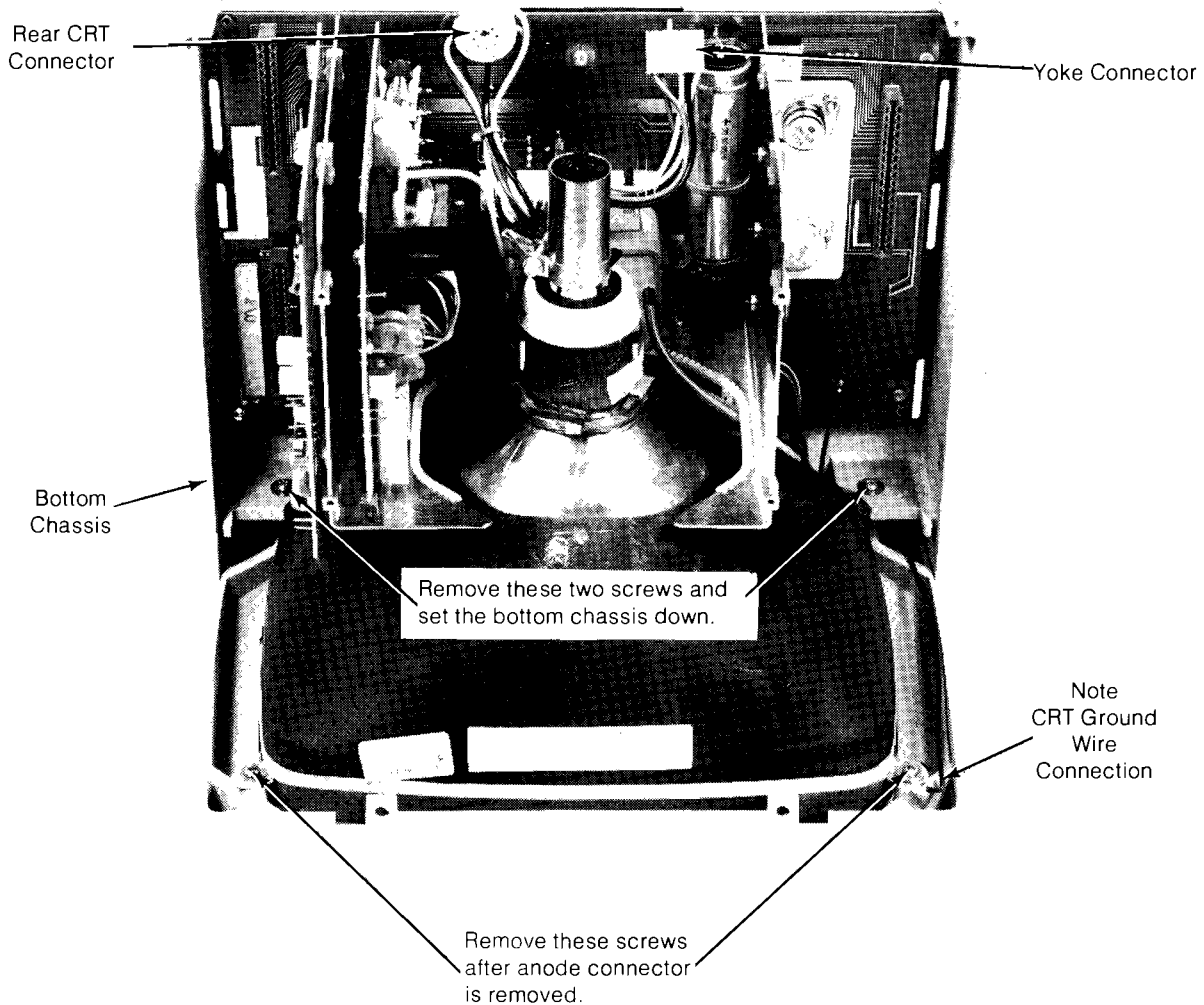

Figure 3-4. Bottle Removal Position
- Place the CRT on the front bezel (see Figure 3-4)
- Remove CRT yoke connector (Figure 3-4) from the A70 assembly, and remove the CRT connector from the back of the CRT bottle.
- Remove the 2 screws shown in Figure 3-4 that hold the CRT bottom chassis to the front bezel.